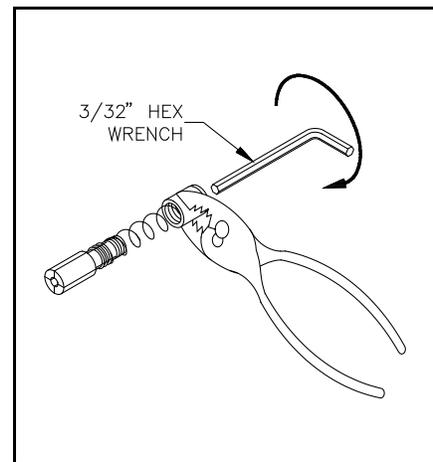

Figure 4.
- 6.3.4 Remove the master collet and the special collet. The pop-out spring, stop, and stop lock screw will be attached to the special collet. See Figure 4.